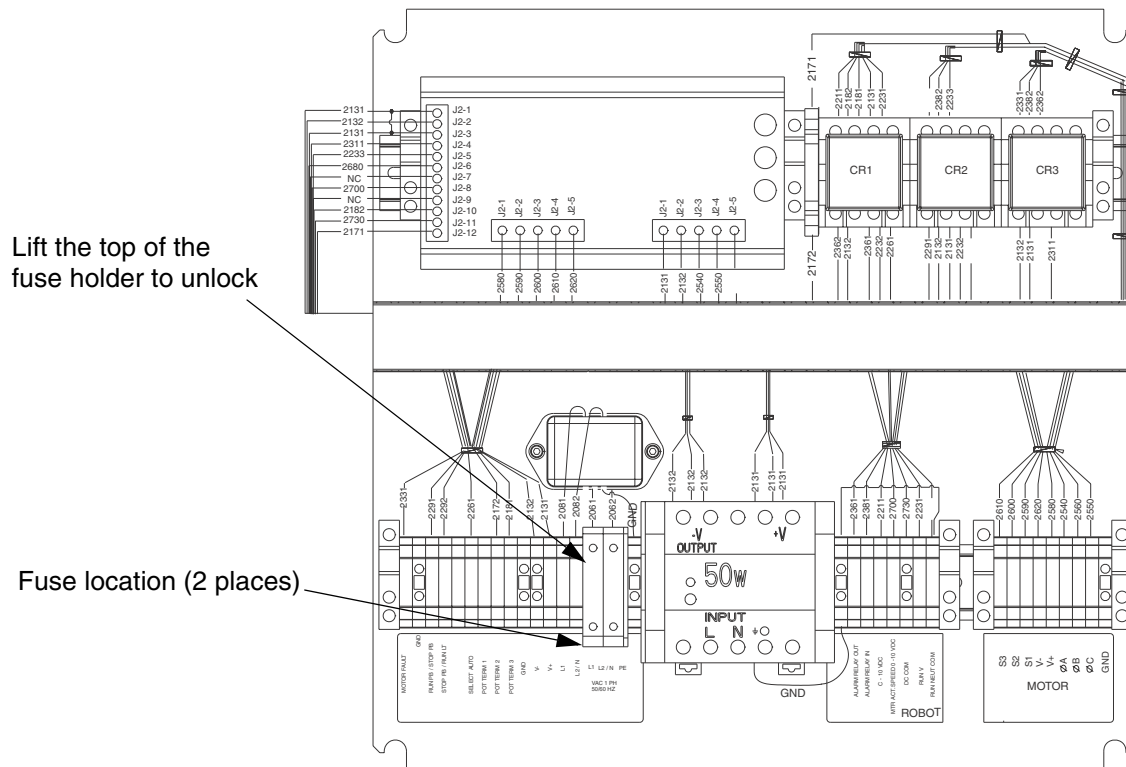

FIG. 19
4. Lift to unlock the top of the fuse holder (10), which is hinged at the bottom, from its clamp. See FIG. 19.
1. Press both ends of the new fuse evenly into place in the fuse holder. See FIG. 19.